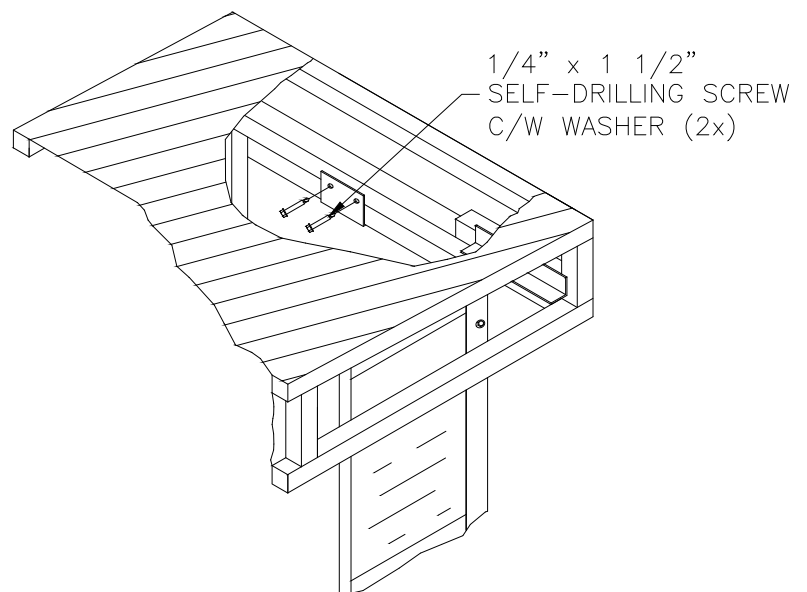

FIG. 9B
- c. Attach Head Frame to Vertical Frames (Figure 9b).